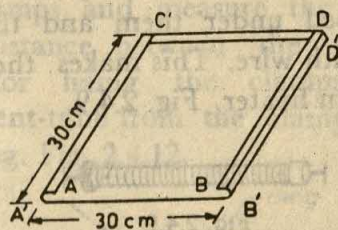

FIG. 2.4.2
2. Take a 0.5 cm thick mild-steel bar and a mallet. Place the bar on the sheet at a distance of 1 cm parallel to the edge AC. Fold edge of the sheet on the bar as shown in Fig. 2.4.2 by using the mallet. Repeat the process on the other side also.